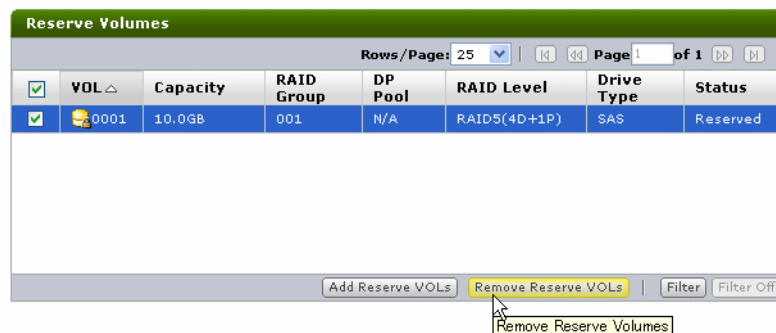

Figure 11-17: Reserve Volumes window - volume selected for deletion
1. From the Reserve Volumes dialog box, select the volume to be deleted and click **Remove Reserve Volumes** as shown in Figure 11-17.